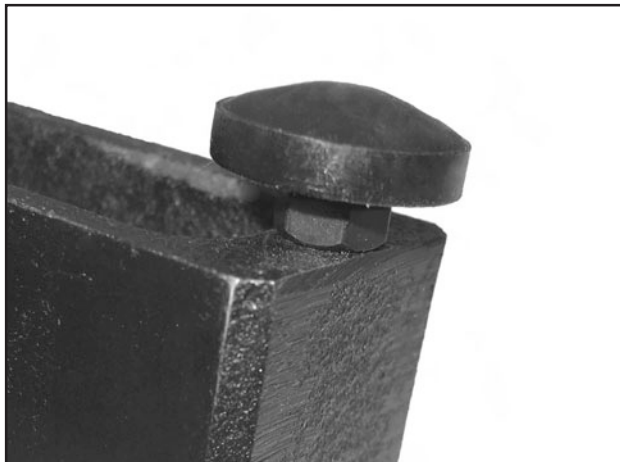

Figure 34. Installed rail pad.
4. Thread the M6-1 hex nut onto the rail pad, then thread the rail pad into the fence (see **Figure 34**).